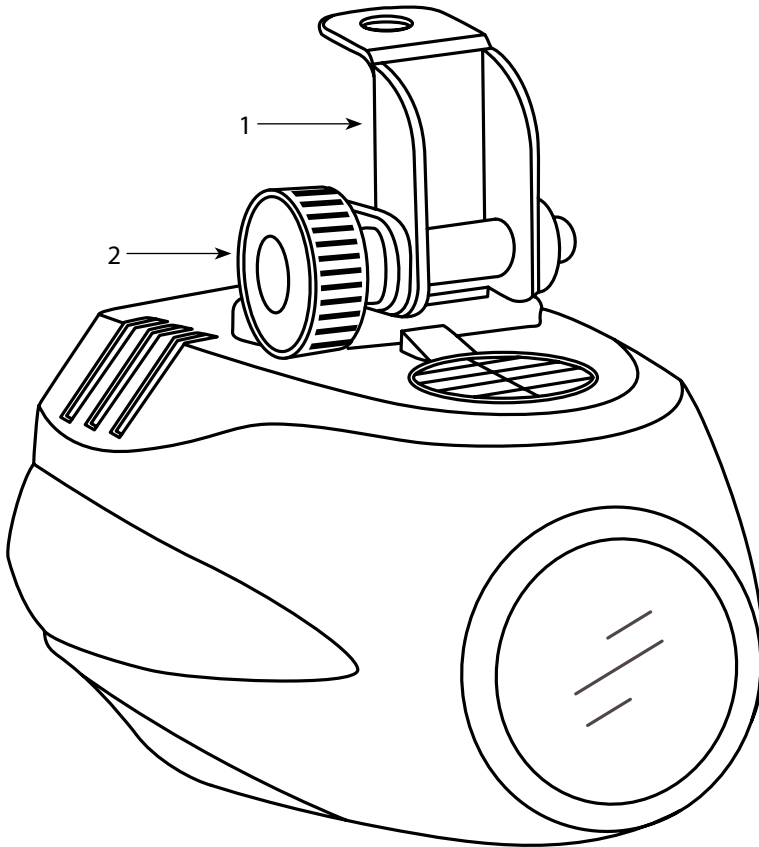

Fig.4
- On the slave units, set all DIP switches Nos. 1 – 9 (fig.4) to the upper position (OFF). Once the slave units receive the control signals of the master unit, the indicating LED of the slave units will shortly light up every 2 seconds.